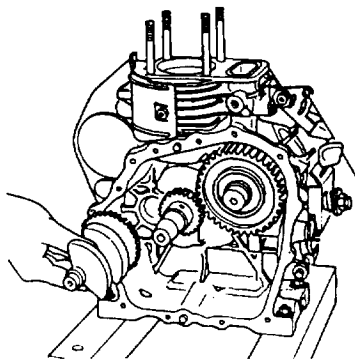

Figure 6-19 Inserting the balancer shaft
- 3) Insert the balancer shaft (see Figure 6-19).